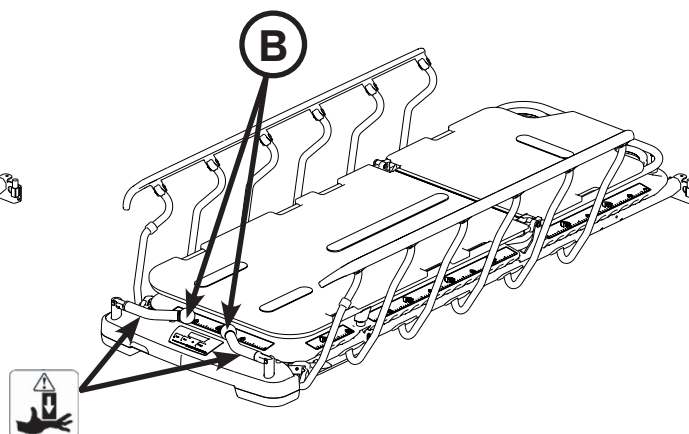

Figure 20: Foot End Push Handles Stored
To store the push handles, lift the handles (B) up and pivot them down to store in the handle rests (Figure 20).